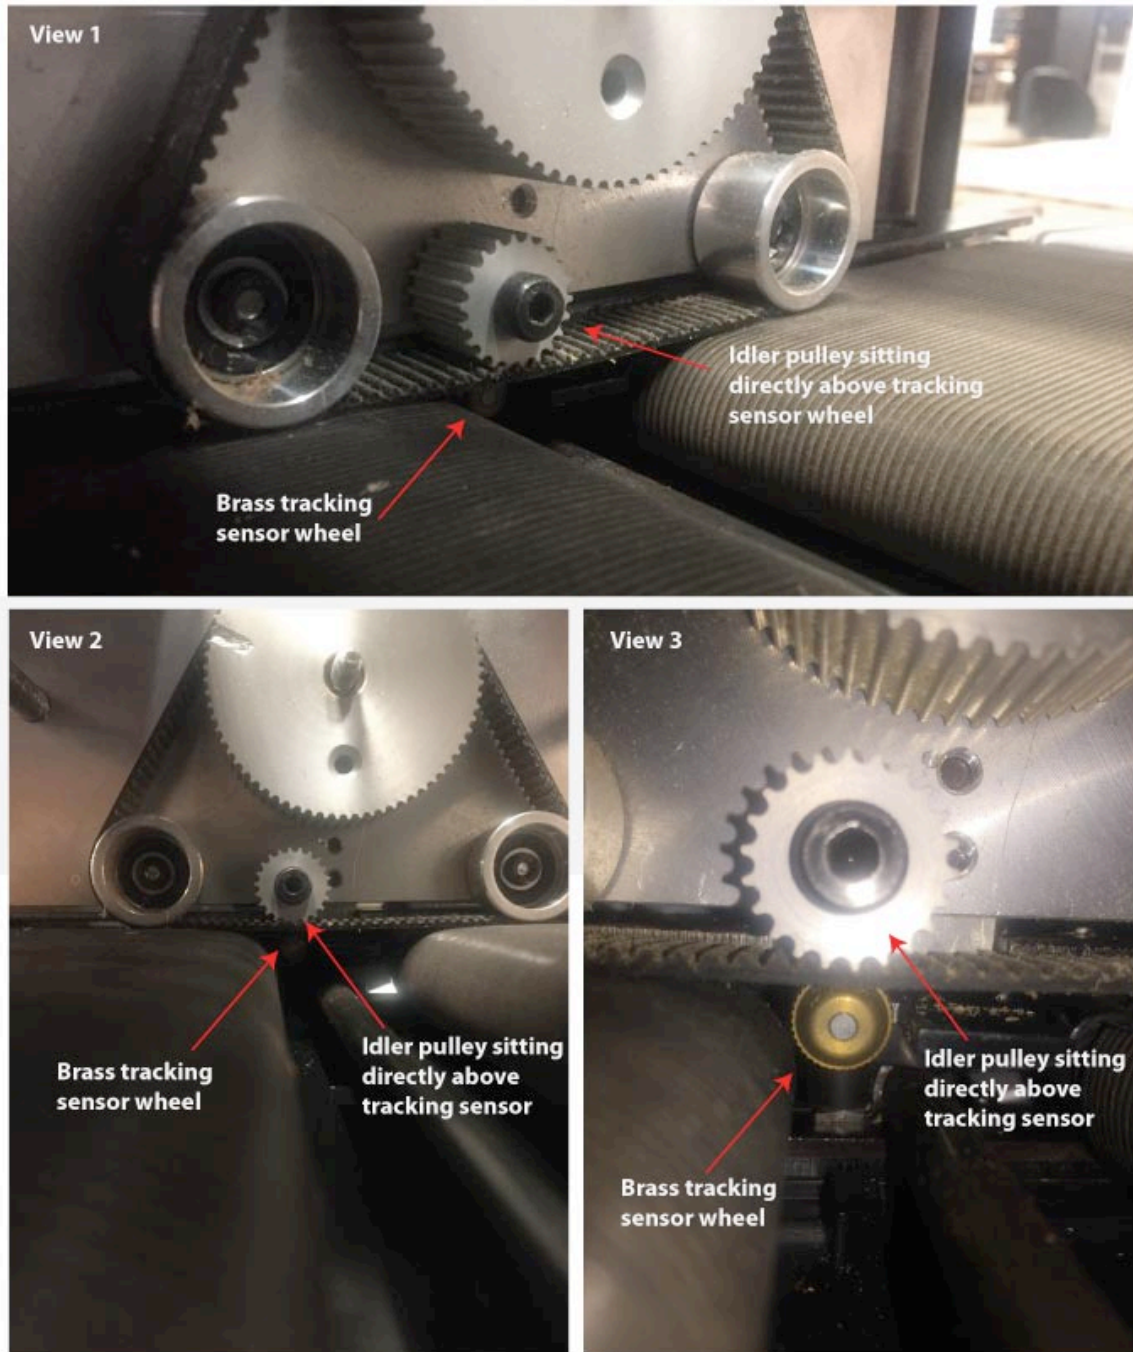

Figure 2: Idle Pulley Position
3. Check to see if the idler pulley is in the correct place (See Figure 2). If this is not directly over the brass tracking sensor wheel, contact support for a replacement jig. This is a rare issue of an improperly assembled jig. Take photographs to send to support@carverwright.com for verification.